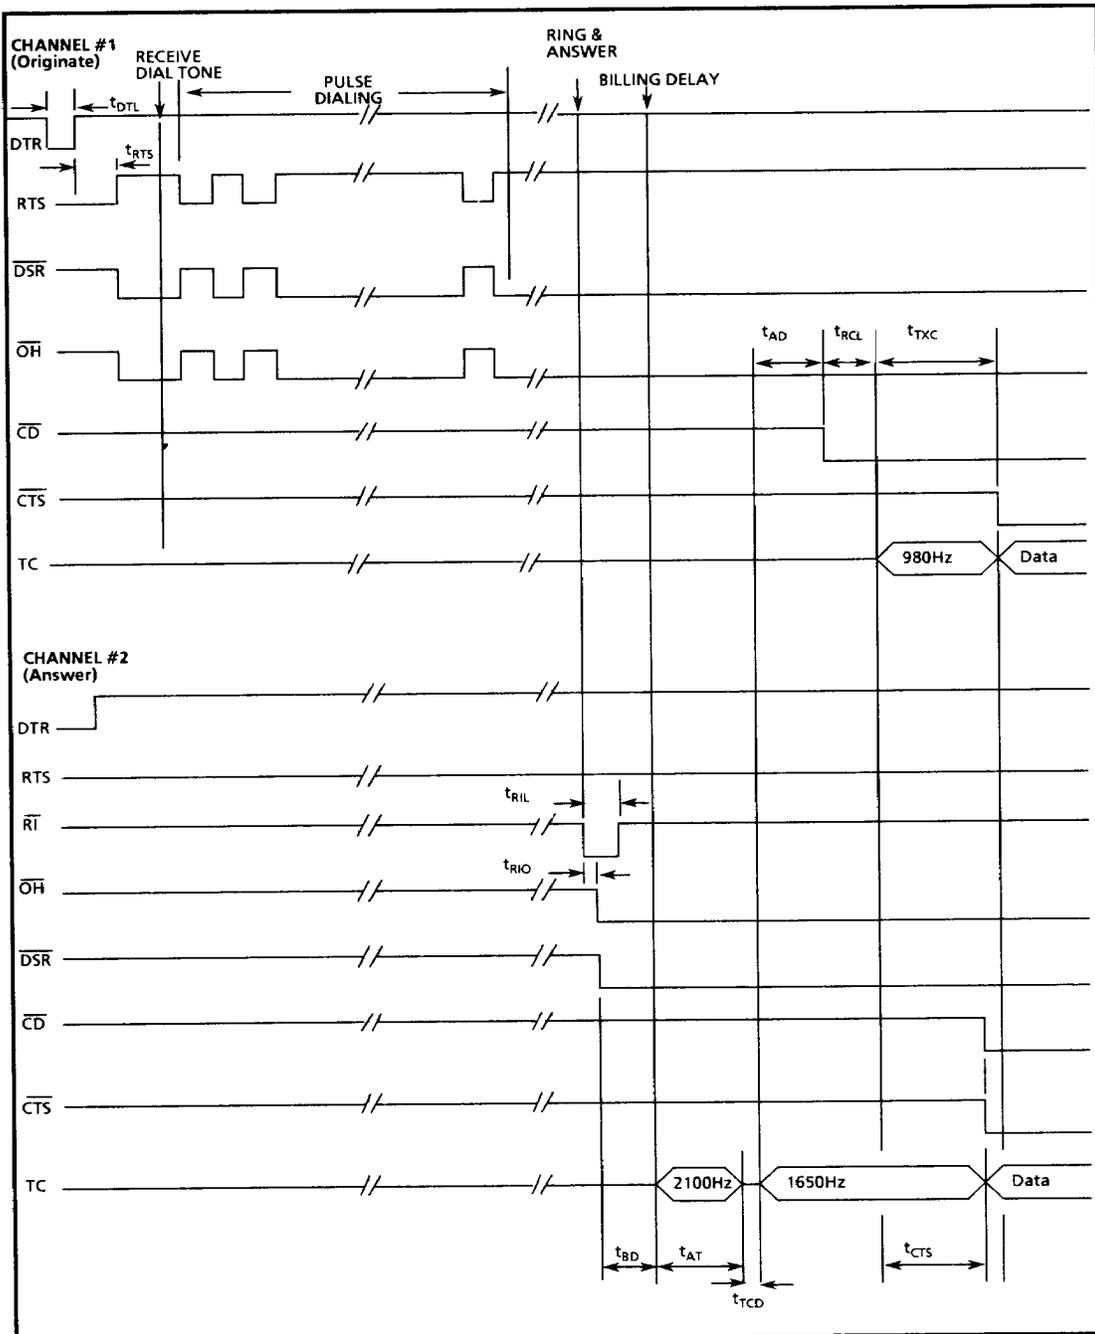

Figure 3 - MT3530 Modem Timing Chart for CCITT V.21 Operating Mode
**Modem Timing Parameters for Bell 103 Operating Mode. See Figures 3 and 4a.**
The MT3530 will perform the same operations described above in the CCITT V.21 mode if the SL pin is tied High. The basic principle is the same but the frequencies and the timings are switched to conform to V.21 specifications. See the timing charts (Figures 3 and 4) and Table 2 for additional details. When in V.21 mode the V.25 Answer Tone of 2100 Hz will be generated upon answering.